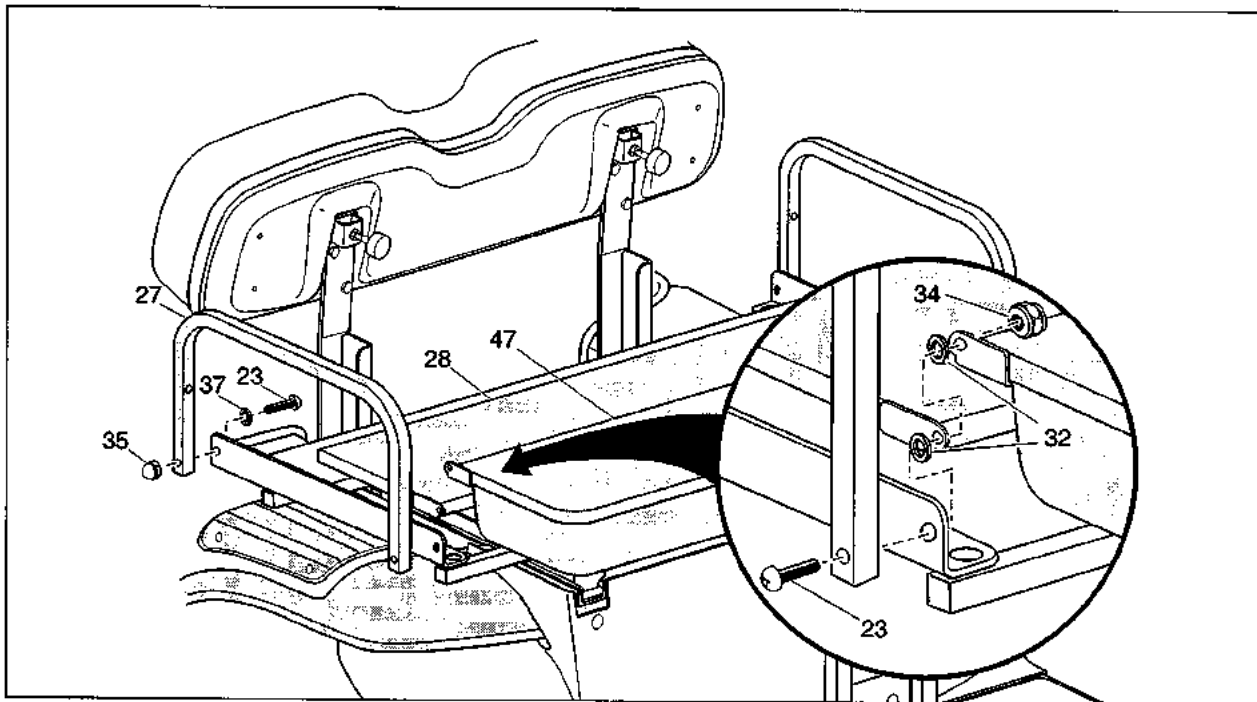

Fig. 8
G. INSTALLING HANDRAIL (Refer to Fig. 8)
1. Attach handrail (item 27) at forward end of support frame (item 26) using bolt (item 23), lock washer (item 37) and acorn nut (item 35). Do not tighten hardware at this time.
H. INSTALLING LOAD BED AND SEAT BOTTOM (Refer to Fig. 8)
1. Position load bed (item 28) in support frame as shown.
2. Position seat bottom (item 47) in support frame as shown.
3. Insert teflon washer (item 32) between support frame and load bed and again between load bed and seat bottom as shown.
4. Secure all components by inserting bolt (item 23) through handrail, support frame, washer, bed assembly, washer and seat bottom and secure with lock nut (item 34). (See Detail in Fig. 8) Tighten all handrail hardware to 12 - 14 ft. lbs. torque.